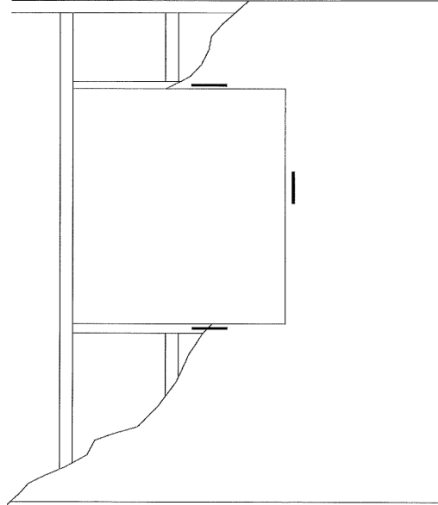

Figure 9
- Window, door, and wheel well areas should be routed flush to, or recessed from, wood framing so that no excess metal extends into the opening (See Figure 9)